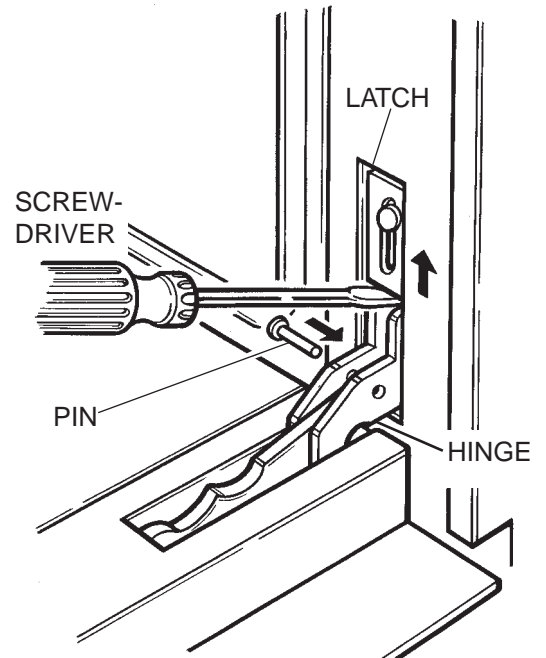

Figure 13 - Removing the oven door
2. Insert the pins (supplied) into the pin-holes, on both hinges. (Figure 13).
3. Push up the latches with a screwdriver. (Figure 13).